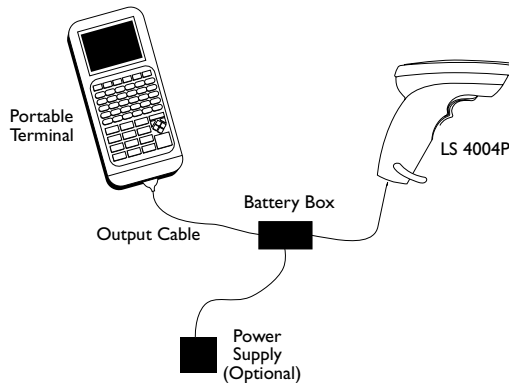

Figure 2-5. RS-232C Battery Operation
3. An output cable from the battery box connects the LS 4004P to the RS-232C input device. Connect one end of this cable to the battery box and the other end to the appropriate port on the host device (Figure 2-5).